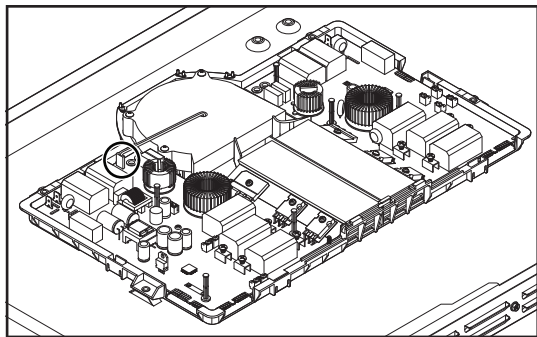

Figure 1
5. Disconnect the 3-wire fan connector from power control board as shown in below figure 1. Remove three (3) screws from the cooling fan/blower (see figure 2) and lift the fan from the power control board (see figure 3).